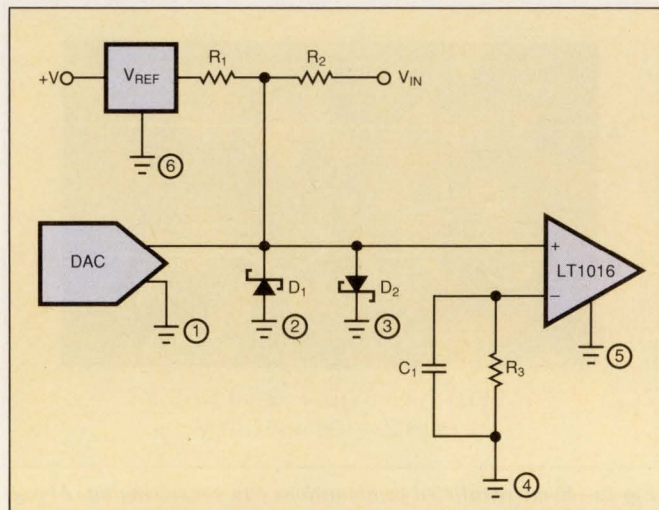

Fig 13—In this combination analog-digital circuit, good practice dictates that grounds 2, 3, 4, and 6 be as close to a single point as possible.
- Where a common ground potential is important, such as at comparator inputs, try to connect the critical components to a single point in the ground plane to avoid voltage drops. For example, in Fig 13's common DAC-comparator circuit, good practice dictates that grounds 2, 3, 4, and 6 be as close to a single point as possible. Fast, large currents flow through R_1 , R_2 , D_1 , and D_2 during the DAC's settling time. Therefore, you should mount these components close to the ground plane to minimize their inductance. Because R_3 and C_1 don't carry any current, their inductance is less important; they could be vertically inserted to save space and to let point 4 be single-point common with 2, 3, and 6.